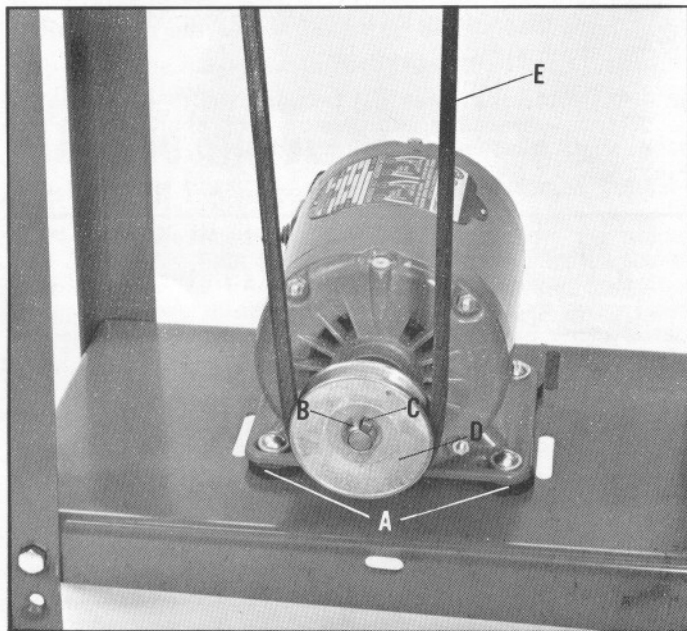

Fig. 3.
2. Make sure the four rubber washers (A) are positioned between the motor and the shelf as shown in Fig. 3.
3. If you are using a motor with a 1/2" shaft it is necessary to place the sleeve (B) and key (C) on the motor shaft, as shown in Fig. 3, before assembling motor pulley.
4. Assemble the Cat. No. 41-033 5/8" bore motor pulley (D) to the motor shaft, as shown in Fig. 3.
5. Make sure the motor pulley (D) Fig. 3, is in alignment with the band saw pulley and assemble the #49-130 V-belt (E) to the two pulleys.